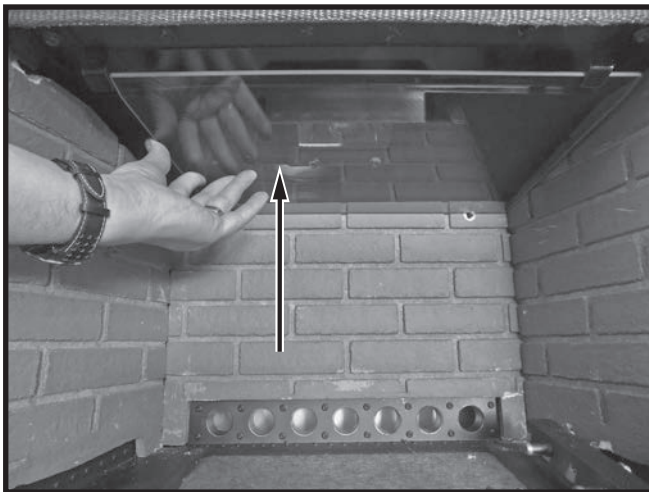

Figure 31: Raising baffle above front support.
2. Raise the opposite end of the baffle so that it is raised above the supports on the other side of the fire-box (Figure 31).